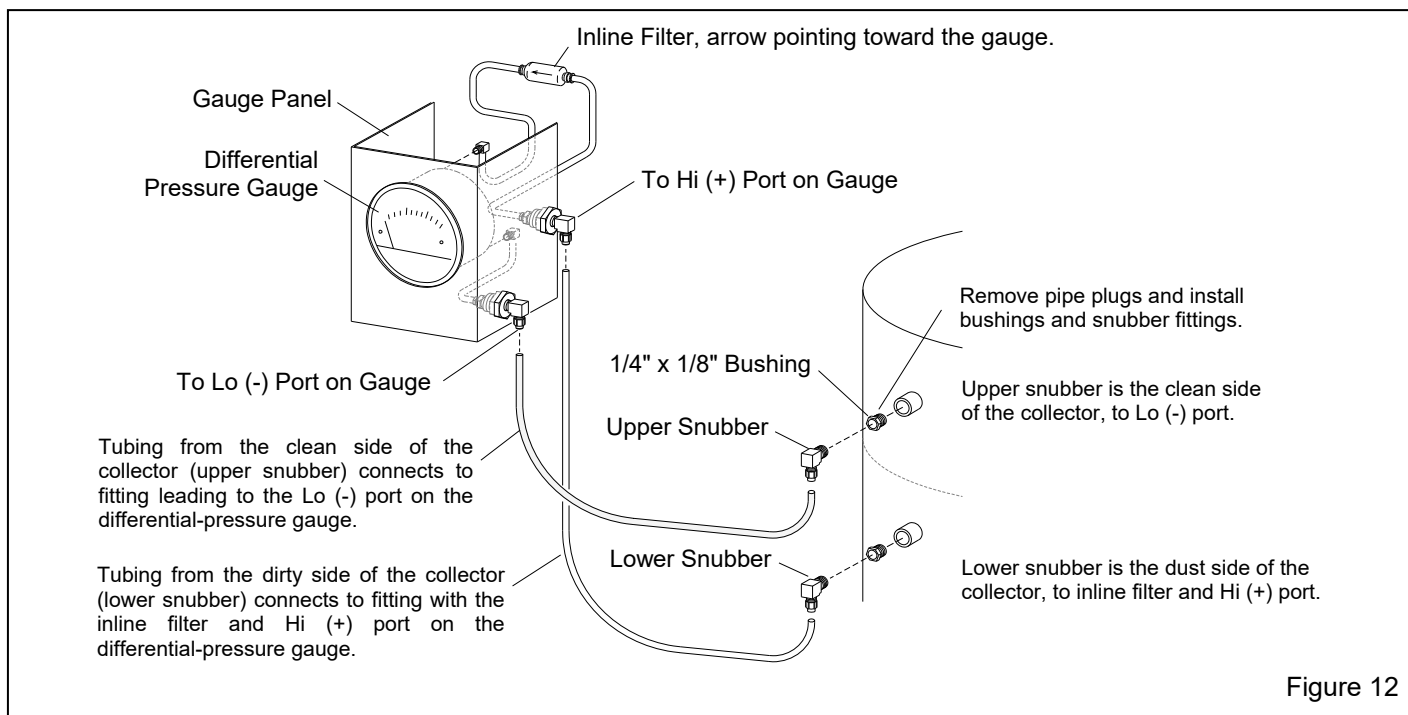

Figure 12
**3.6.4** Remove 1/4" pipe plugs from the dust collector body and install 1/4" x 1/8" bushings and snubber fittings, as shown in Figure 12.